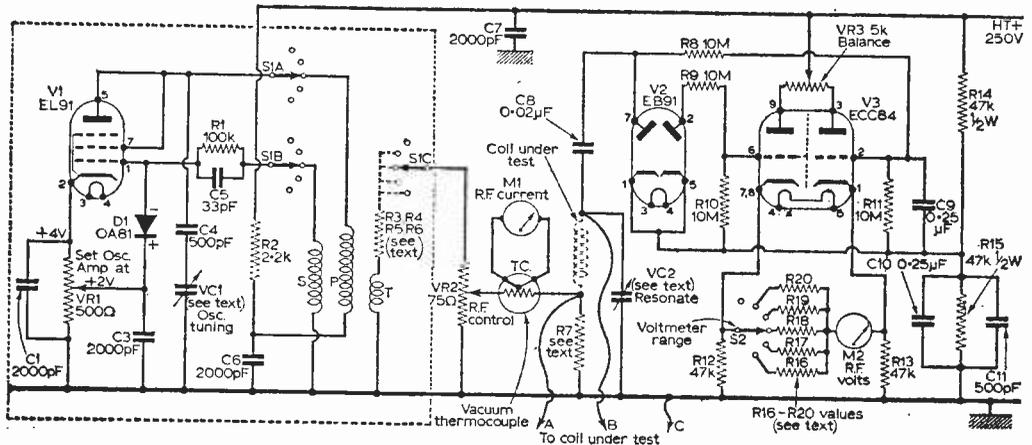

Fig. 3—The circuit.
Looking again at Fig 3, all that would be necessary is careful adjustment to L5, L4 and TC1, in that order, to give maximum sound output with the fine tuning control adjusted for the best vision, consistent with minimum sound-on-vision. It is most important to ensure that the fine tuning control is adjusted correctly before touching the sound I.F. tuning. This is because the fine tuning control causes both the sound and vision carriers to move along the sound and vision I.F. response curves, and all we are interested in at this time is to make the two response curves correctly displaced from each other, simply by altering the
The sound take-off in Fig. 3 comprises the tuned circuit L13, C30, C31 and TC1, and, in such a circuit, TC1 must be adjusted to provide the conditions previously described. Some sets use a dust-iron core instead of a trimmer capacitor, but the procedure for adjustment is exactly the same. The sound take-off on all sets is the tuned circuit which feeds the sound signal from the common I.F. amplifier stage to the sound I.F. valve.
The circuit diagram of the Q-meter is shown in Fig. 3. It consists of a small power oscillator in which the range required is selected by means of a Yaxley switch. Tuning is accomplished in the usual way with an air-spaced capacitor of good quality. In the prototype, this component had a maximum capacitance of about 80pF, but a larger one would not be unsuitable except perhaps on the highest frequency range, 30-50Mc/s. The oscillator has provision for amplitude stabilisation. This is necessary to minimise the amount of harmonic current generated, and the stage operates without grid current. If harmonics are present in any great quantity, it will be seen that the reading of the R.F. milliammeter will include them. But the tuned
**COMPONENTS LIST (Fig. 3)**